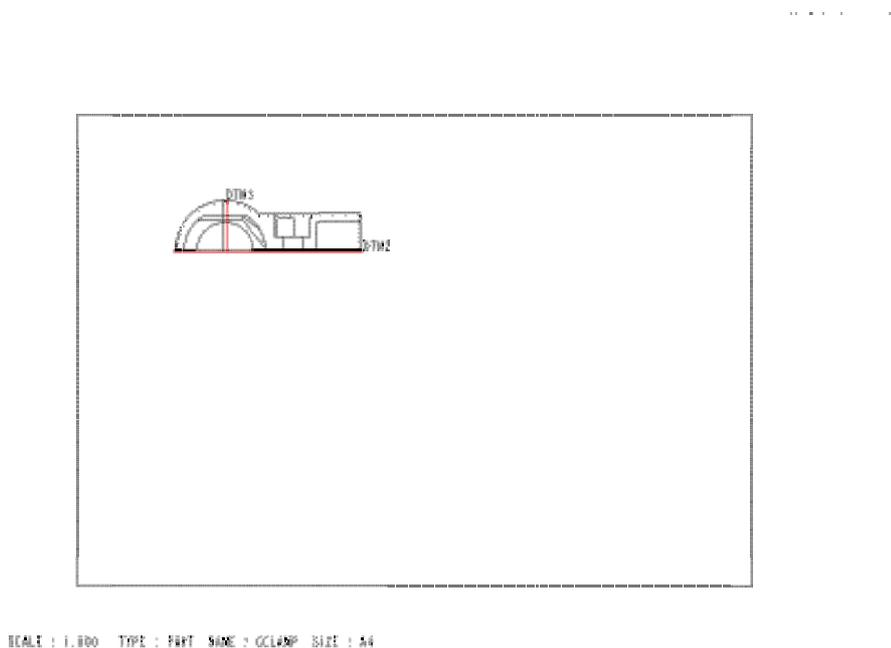

Figure 14: Orientation of the initial drawing view
3. **Placement** The user is now requested to choose the location for the master view by a prompt in the message window ‘select CENTER POINT for drawing view. Selecting (LMB) a position near the bottom right of the drawing surface will result in a default (isometric) view being placed followed by the opening of an ORIENTATION window, see Figure 14.